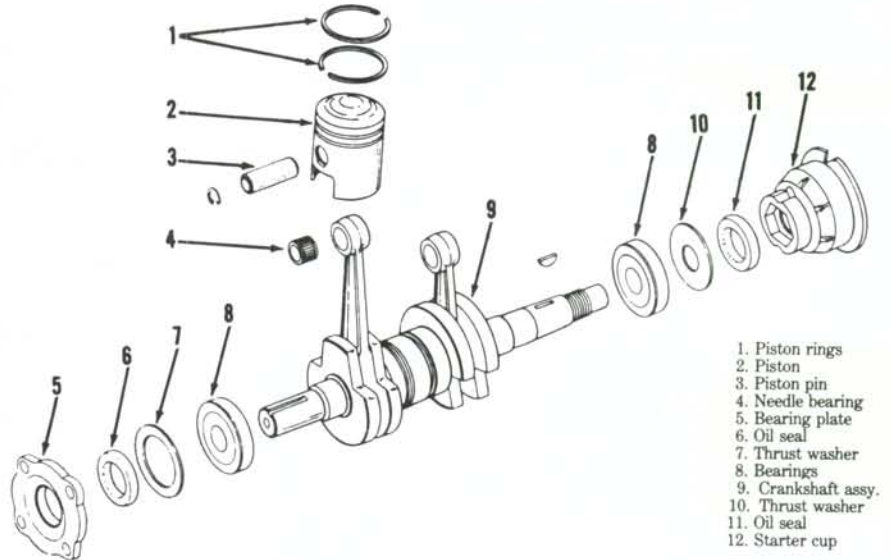
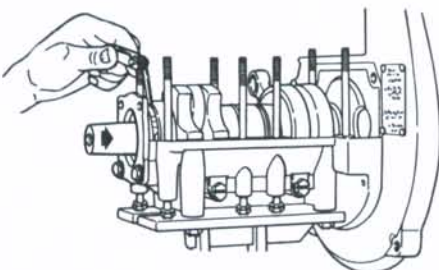
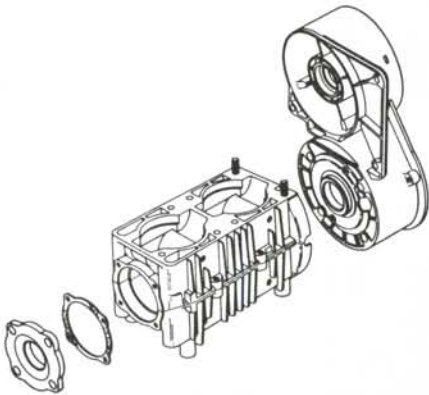

Fig. 5—Exploded view of crankshaft, pistons and associated parts used on centrifugal fan engines.
Fig. 8—Push crankshaft of partially assembled engine to flywheel side and measure end play with a feeler gage as shown.
Fig. 11—On small block engines, end plates control crankshaft end play instead of snap rings shown in Fig. 10.
When removing drive-end bearing plate (5—Fig. 5) note number of shims (7) on shaft. Keep shims with bearing plate for reassembly. Scratch-mark magneto plate to assist in timing during reassembly, then remove magneto plate, flywheel end plate and shims (10). Note number of shims (10) and keep with end plate for reassembly.
lower crankcase half and snug up retaining cap screws. Slide crankshaft solidly toward flywheel end of housing as shown in Fig. 8 and measure end clearance between crankshaft bearing and drive end housing using a feeler gage as shown. Clearance should be 0.006-0.012; if it is not, vary the thickness of either shim pack (7 or 10—Fig. 5) as required. Shims are available in thicknesses of 0.006 and 0.012. Remove both bearing plates leaving shim pack in position on crankshafts. Coat flange areas of both crankcase halves evenly and lightly with KOHLER Crankcase Sealer (or equivalent). Lubricate all bearings with clean, light oil and reassemble crankcase halves and end plates.
Fig. 9—Exploded view of major housing components used on axial fan models. Note split cylinder shroud and two-piece intake manifold. Minor differences exist between large and small engines; refer also to Fig. 11.
Fig. 10—Exploded view of crankshaft, pistons and associated parts used on big block axial fan models. Small block engines are similar except end plates (Fig. 11) control crankshaft end play instead of snap rings (6 & 12).
When reassembling the engine, make sure all parts are clean. Install crankcase through-bolts in lower crankcase half and attach crankcase half to a suitable engine stand, then lower crankshaft in position. On large block engines, install the removed shim packs (7 & 11—Fig. 10) and fit snap rings (6 & 12) in crankcase bore grooves. On small block models, install removed shim packs and end plates (Fig. 11). On all models, slide crankshaft toward flywheel end and measure crankshaft end clearance using a feeler gage as shown in Fig. 8. Clearance should be 0.006-0.012; if it is not, vary the thickness of either shim pack (7 or 11—Fig. 10). Shims are available in thicknesses of 0.006 and 0.012. On engines so equipped, remove end plates leaving shim packs in place; on other models, position oil seals (5 & 13—Fig. 10) on shaft in lower crankcase half. Lubricate all bearings using light oil and coat both crankcase mating flanges with